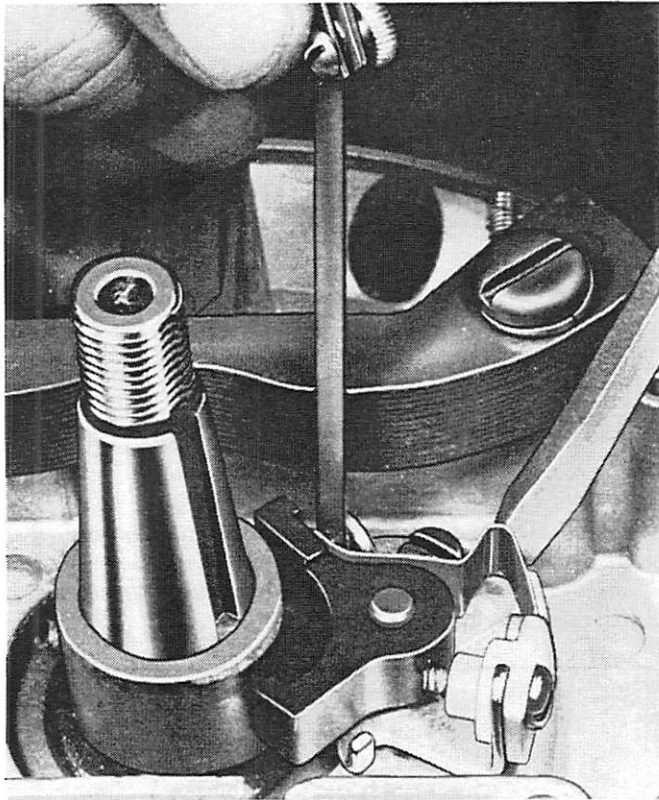

Figure 22. Adjusting Points on Phelon
2. Check breaker points. Be sure they are set to proper gap (.018" [0.457mm]). On late model Phelon Magneto, set gap .020" (0.5080mm). Use a Feeler Gauge (C-91-24262). (See Figure 22.) (Refer to "degree plate setting" on P. 13) Be sure breaker rubbing surface is on highest part of cam when checking points. This is the part of cam which follows directly after points have opened. Be sure they are clean. Clean with a lint-free cloth.